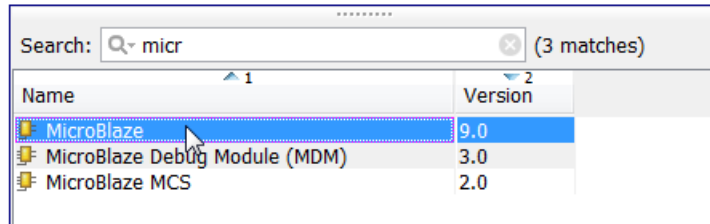

Figure 82: Search Field
4. In the Search field, type **microblaze** to find the MicroBlaze IP, then click **Enter** (Figure 82).